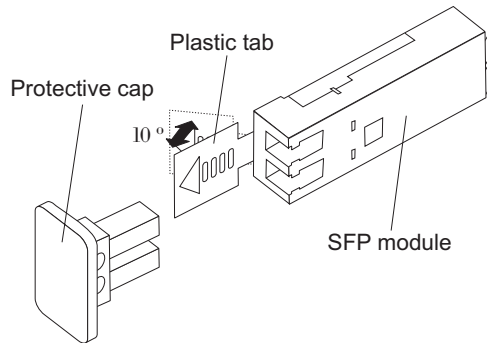

Figure 35. Unlocking the SFP module latch - plastic variety
- For SFP modules that contain plastic tabs, unlock the SFP module latch by pulling the plastic tab outward 10°, as shown in Figure 35.